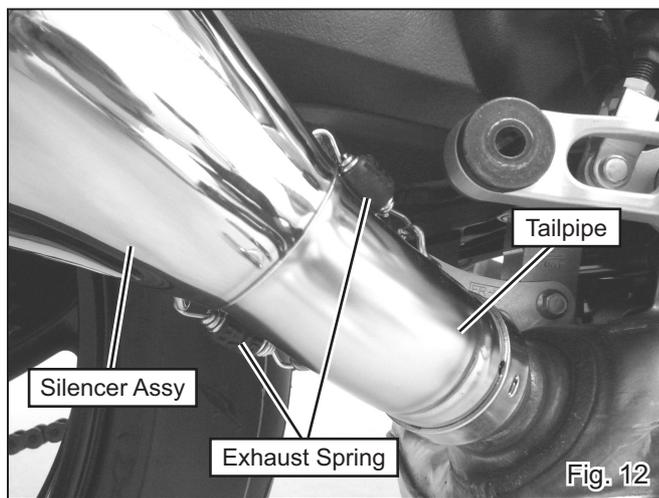

Fig. 12
- 10) Install 2 of Exhaust Spring on each spring hook of Tailpipe and Silencer Assy (See Fig. 12).